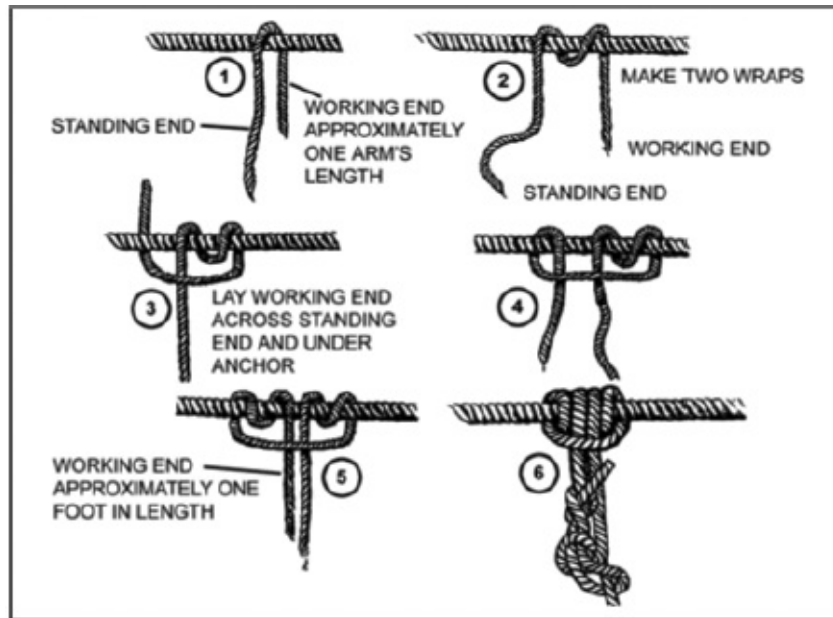

Figure 5-13. End-of-the-rope prusik
- i. **End-of-the-Rope Prusik.** The End-of-the-Rope Prusik (Figure 5-13) attaches a movable rope to a fixed rope. The knot has two round turns, with a locking bar perpendicular to the standing end of the rope. Tie a bowline within 6 inches of the locking bar. When you dress the knot, leave at least a 4-inch tail on the working end.